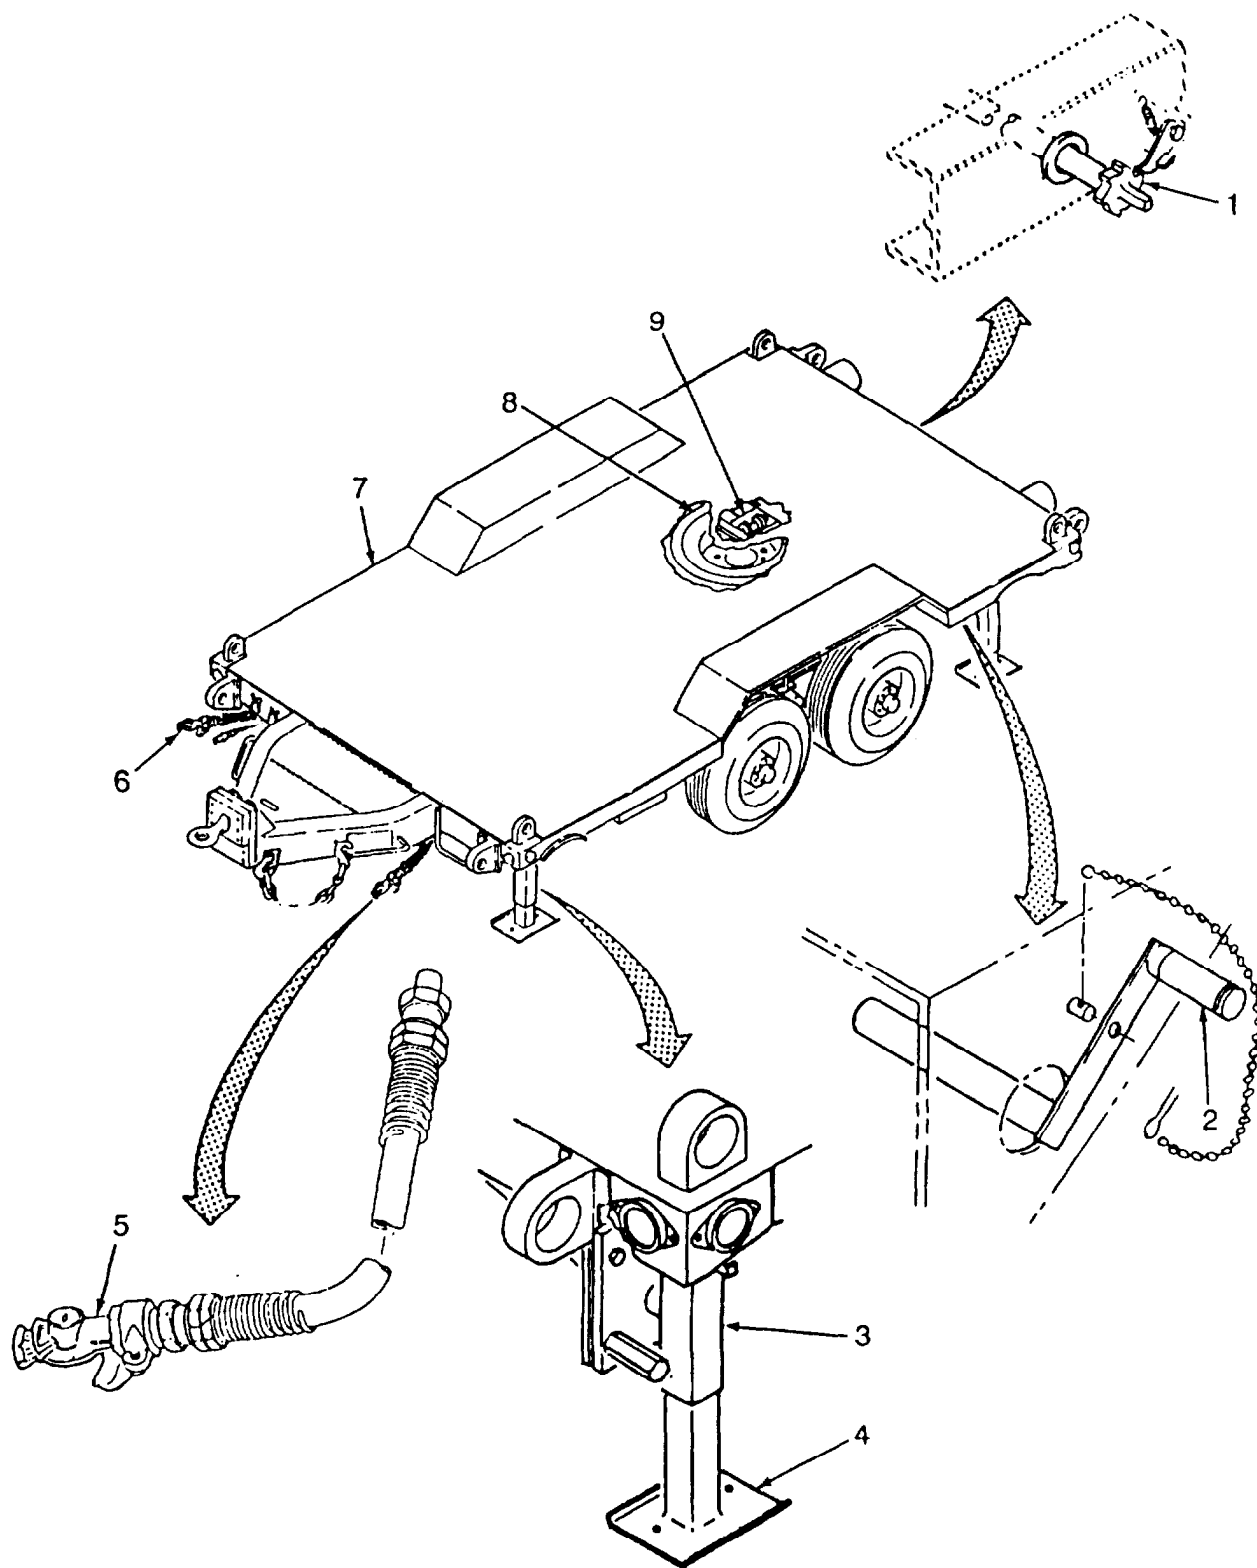

Figure 2-3. Trailer Controls and Indicators.
- c. Brake System. Refer to figure 2-3. The service brakes are air actuated and controlled by the towing vehicle. When the two air hoses (5 and 6) from the trailer are connected to the towing vehicle, the service brake system and the brake pedal on the towing vehicle automatically operate the trailer brakes. Disconnecting the air hoses causes the service brakes to engage automatically, which serve as parking brakes for the trailer. If the air supply from both the towing vehicle and the trailer reservoir is lost, a compression spring immediately locks the trailer brakes. Notify unit maintenance if the trailer brakes are locked and trailer must be moved.
- d. Leveling Jacks. Refer to figure 2-3. Leveling jacks (4) are installed at each corner of the trailer (7). The jacks are manually operated by hand cranks (2) stowed on the trailer. Turning the crank counterclockwise retracts the jack; turning the crank clockwise extends the jack. The mount (3) permits the jack to swivel up or down. A spring inside the mount locks the jack in the vertical or horizontal position. In the vertical and locked position, the jacks are used to level the trailer by raising or lowering the trailer corners. When rotated to the horizontal position, the jacks are stowed. The front jacks, when locked in the vertical position, can also be used to assist in uncoupling the trailer from the towing vehicle.
- e. Snare Wheel and Tire Carrier. Refer to figure 2-3. The spare wheel and tire carrier (9) is a manually operated, cable-driven winch mounted under the rear of the trailer (7). The carrier is operated by connecting the hand crank (2) to the carrier ratchet (1). Two (2) wheel lug nuts secure the spare tire (8) to the carrier. The vehicle's lug wrench is used for removing the lug nuts.